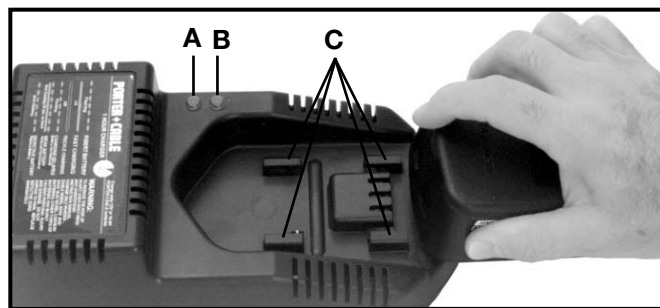
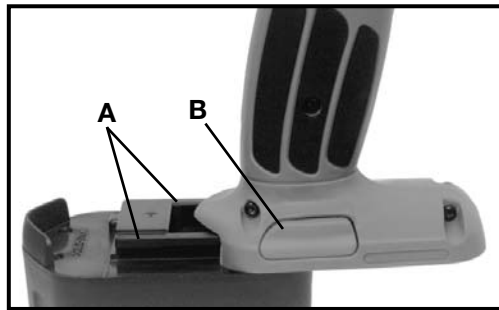

Fig. 5
Fig. 6
Make sure power circuit voltage is the same as that shown on the charger specification plate. Connect charger to power source. The green light (A) Fig. 5, should begin to flash. This indicates the charger is ready to begin charging.
Position battery pack on charger, align rails (A) Fig. 6 on battery pack with four tabs (C) Fig. 5 on charger. Slide battery forward onto charger until it stops.
The green light (A) Fig. 5, should begin to glow continuously, indicating that the battery pack is receiving a "Fast Charge" (if the green light does not glow continuously, or if the red light (B) Fig. 5, also begins to flash: see DIAGNOSTICS). After approximately one hour, the "Fast Charge" indicator light should go out indicating that the battery pack is fully charged and that the charger is now in a "Trickle Charge" mode. The battery pack can be left on "Trickle Charge" until you are ready to use it.
The Model 8604 Charger is equipped with a diagnostic system that automatically checks the battery pack each time a pack is inserted into the charger. If no problems are found, the charger will automatically switch to "Fast Charge" mode as described in NORMAL CHARGING. If a problem is found, it will be indicated by the charger indicator lights (see Fig. 5), as follows:
TO REMOVE BATTERY PACK: Depress the battery release button (B) Fig. 6, and pull battery pack out of tool.
TO INSTALL BATTERY PACK: Align rails (A) Fig. 6, on battery pack with slots on tool and push battery pack onto tool until it locks in place.